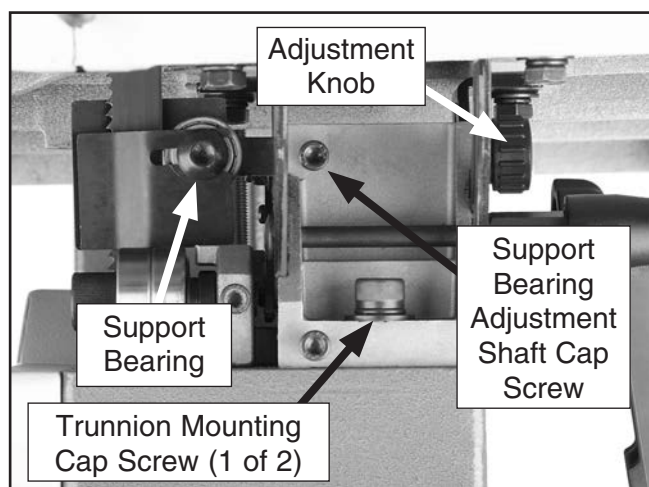

Figure 27. Lower support bearing controls.
3. Familiarize yourself with the lower support bearing controls shown in **Figure 27**.